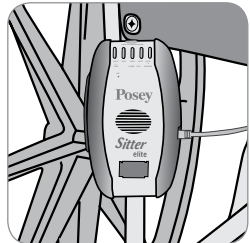

Fig. 27 - Alarm mounted on wheelchair.
4. Slide alarm onto bracket from top down until it is firmly in place (fig. 27).